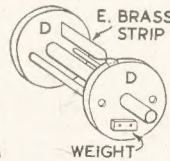

Fig. 3—Inside mechanism
Take care not to cut the pointed end too short. It will, in any case, require a little adjustment later, to ensure that it just catches the brass strips on the inner drum but does not project sufficiently to prevent the outer drum from revolving independently of the inner. Cut two lengths of ¼ in. dowel and the one piece of ¾ in. dowel and glue these into the smaller discs as shown at Fig. 3.
As a trial, cut the pieces 3½ ins., 3 ins., 2½ ins., 2¼ ins., 2 ins. and 1½ ins. Drill two small holes in each, at one end, and then, holding them in a vice or between pliers, twist them to a right-angle near the end where the holes have been drilled, as shown at Fig. 1 (E). Divide one of the discs into six equal divisions round the edge (60 degrees each by protractor) then screw one piece of the metal strip in the middle of each section. This is shown at Fig. 3, but for clearness only one of the six notes is shown.
Now remove the drum again and screw a small piece of sheet lead (or anything similar that can be drilled for screws) about 1 in. by ½ in. to each of the drum discs, as shown at Fig. 3. Glass-paper the main spindle and the holes bored for it in the big discs, until the drum spins freely. Then put the drum into position and add the second big disc. The drum is prevented from moving sideways by wooden pegs glued through the spindle at each end, as shown in the sketch of the complete toy.